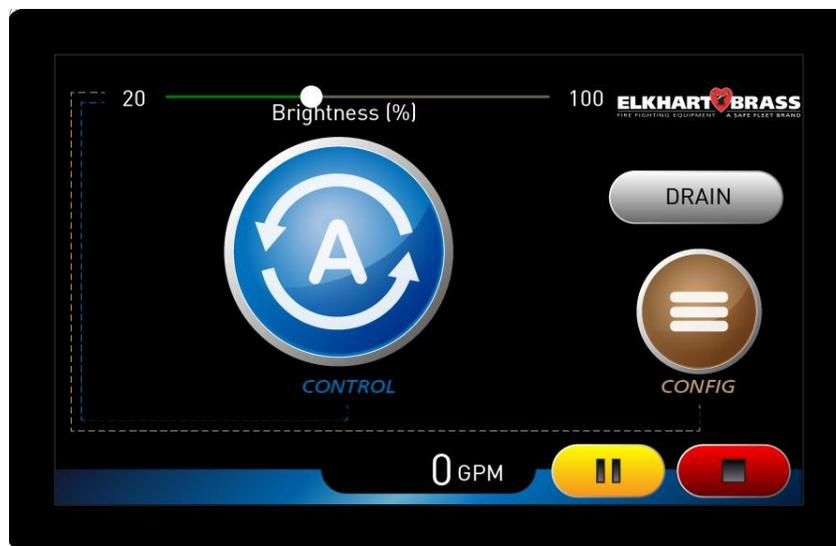

Figure 56: Home page
The Home page (Figure 56) is displayed when the MVC first powers up.
The slider  on the top of the Home page (Figure 56) controls the screen's brightness.
The buttons on the bottom of the Home page (Figure 56) perform the following functions:
From the Home page Figure 56, select the  button to go to the Auto Control Main page. (Figure 57).
- Select the  button to go to the Home page (Figure 56).